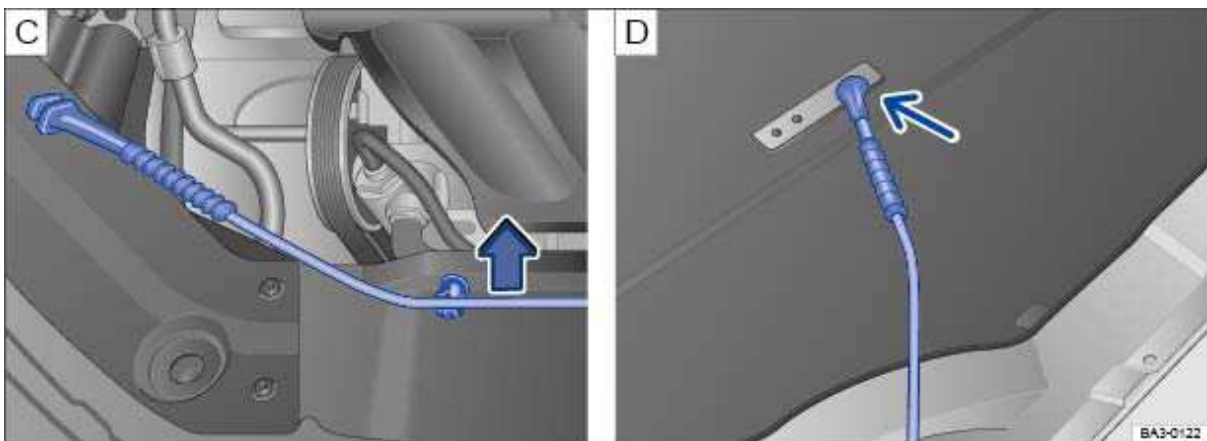

Fig. 167 C: In the engine compartment: Bracket for hood support. D: Hood propped open.
- Pull the hood support out of its bracket in the direction of the arrow ⇒ fig. 167 C and insert it into the opening in the hood **D** (arrow).